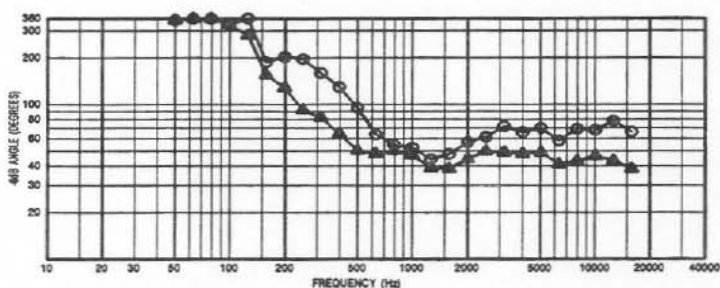

Figure 4—Directivity
Directivity Factor, R_0 (Q), 800-16,000 Hz Average (see Figure 4):
Directivity Index, D_0 , 800-16,000 Hz Average (see Figure 4):